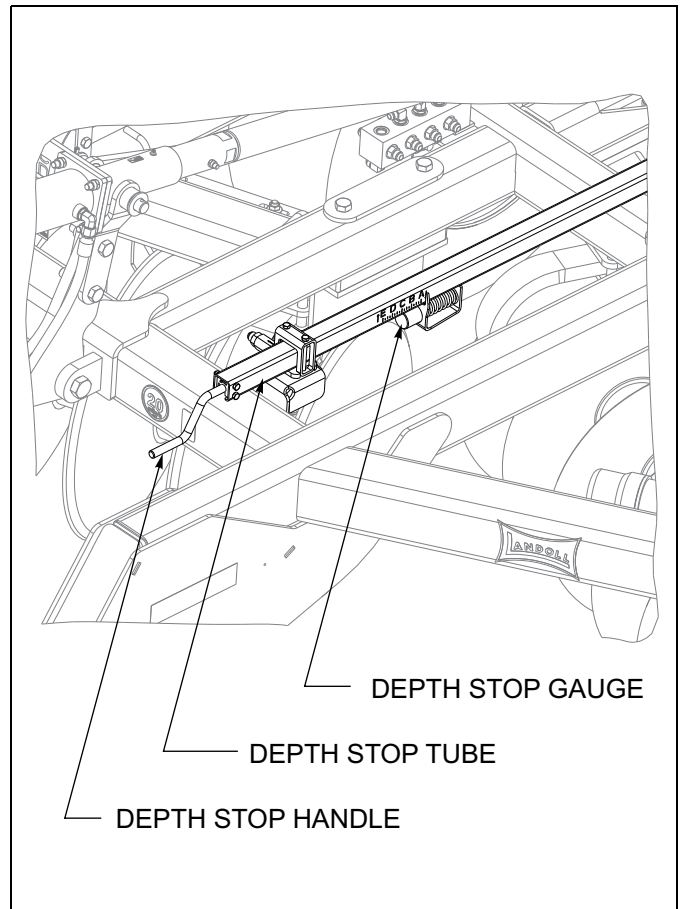

Figure 4-16: Depth Stop Adjustment (Manual)
1. Adjust the depth stop by turning the handle in (clockwise) to increase operating depth (**See Figure 4-16.**) Turn the handle out (counter-clockwise) to decrease operating depth. One turn will equal approximately 3/16 adjustment in depth.